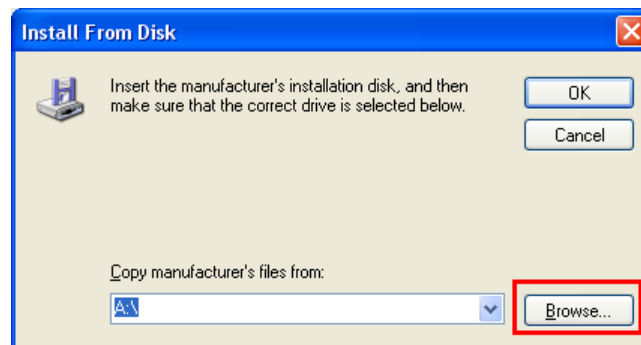

Fig. 3-4 Find driver location—2
4) Click “Have Disk...”, a new window to appear, as shown in Fig. 3-4.